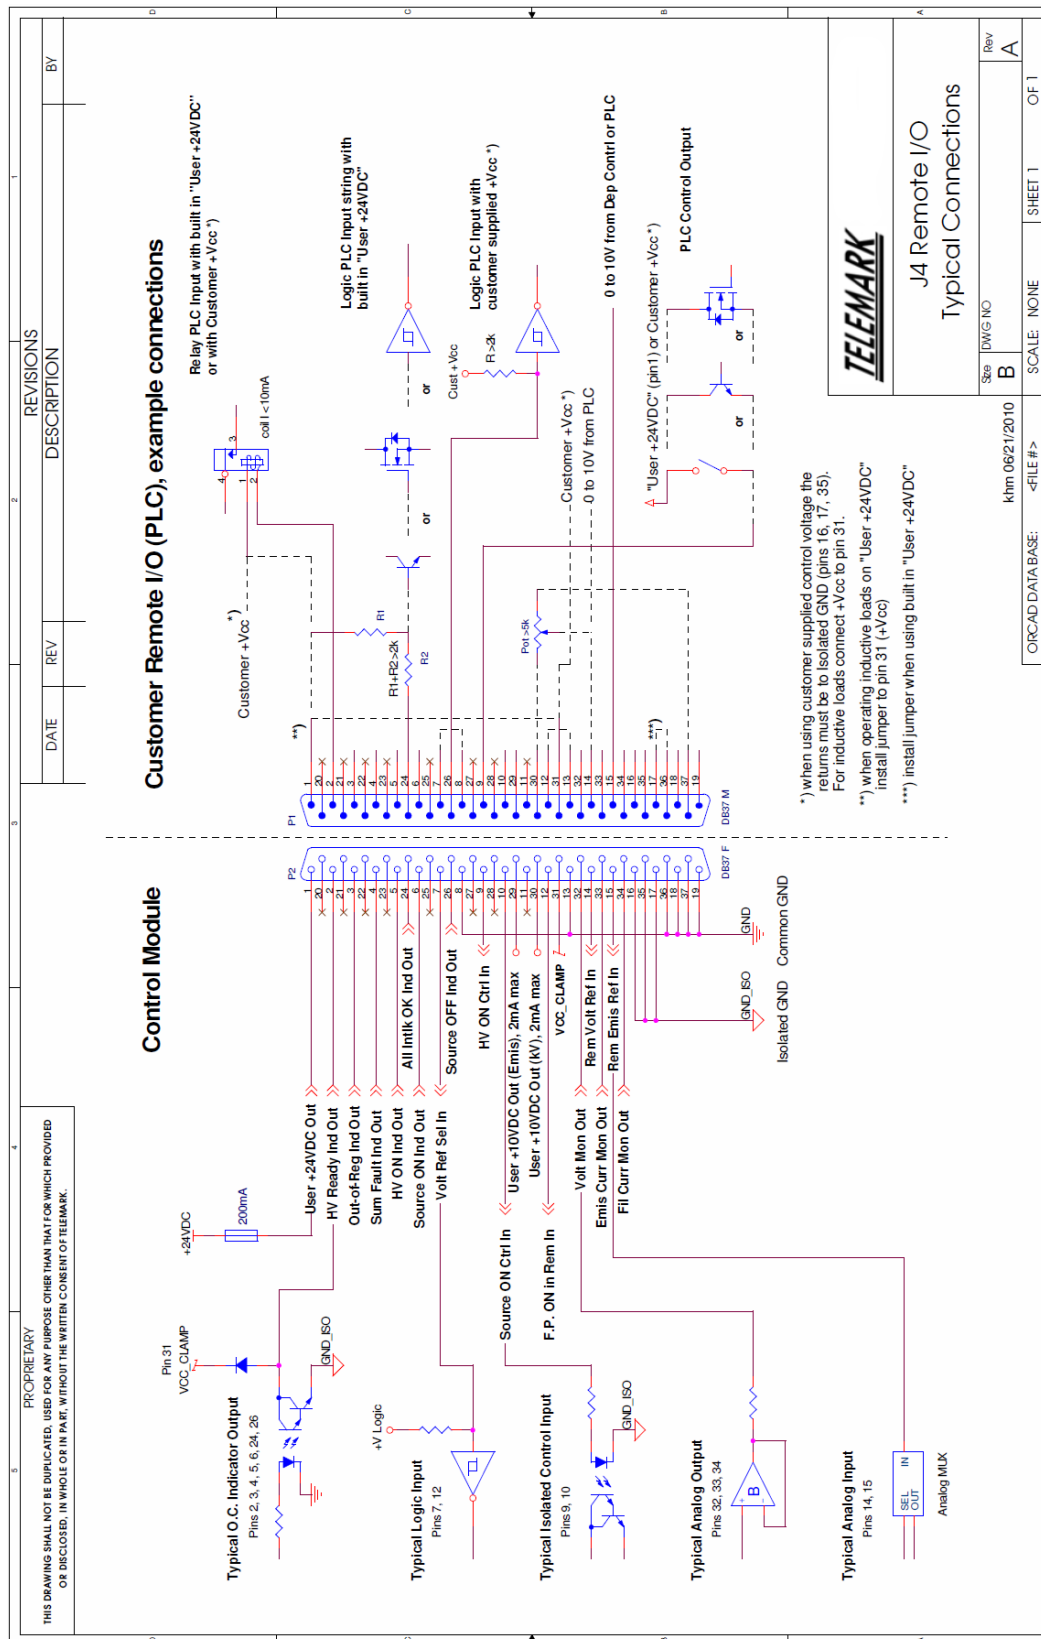

Figure 9-6, J4 Remote User I/O Connector
- Figure 9-6 J4 Typical Remote User I/O Connections